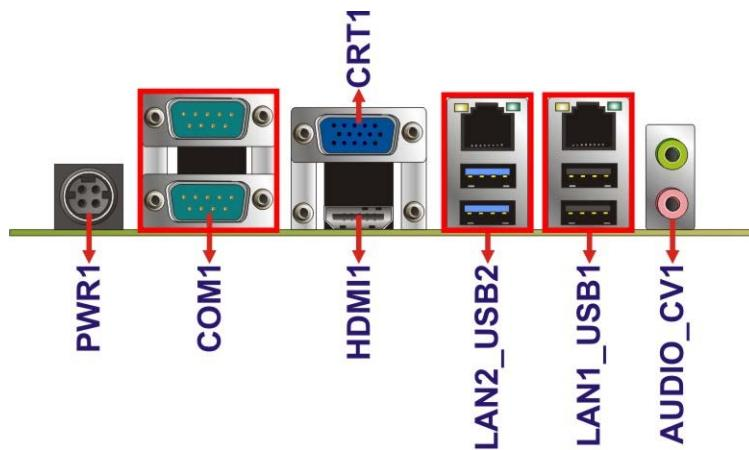

Figure 3-23: External Interface Connectors
Figure 3-23 shows the KINO-CV-D25501/N26001 motherboard external interface connectors. The KINO-CV-D25501/N26001 on-board external interface connectors are shown in Figure 3-23.
**CN Location:** See Figure 3-23
**CN Location:** See **Figure 3-23**